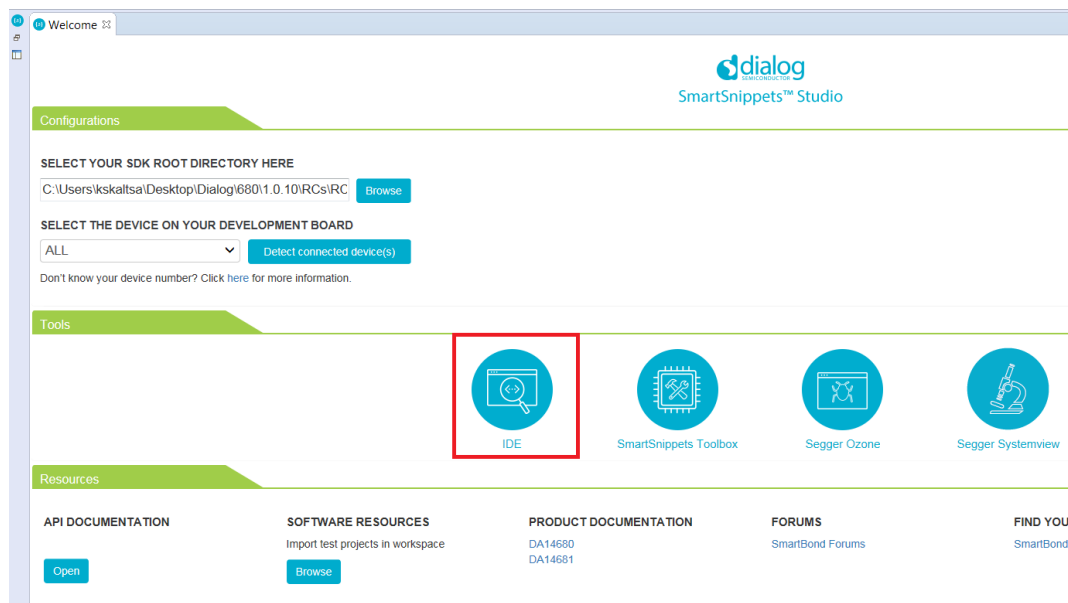

Figure 34: SmartSnippets™ Studio welcome page
1. In the **SmartSnippets™ Studio** welcome page click on the IDE icon from the Tools tab as shown in **Figure 34**.